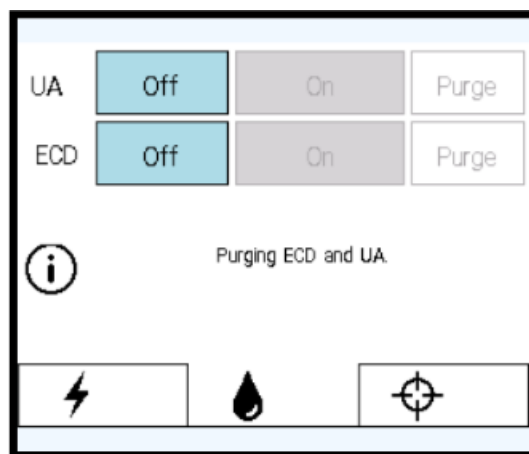
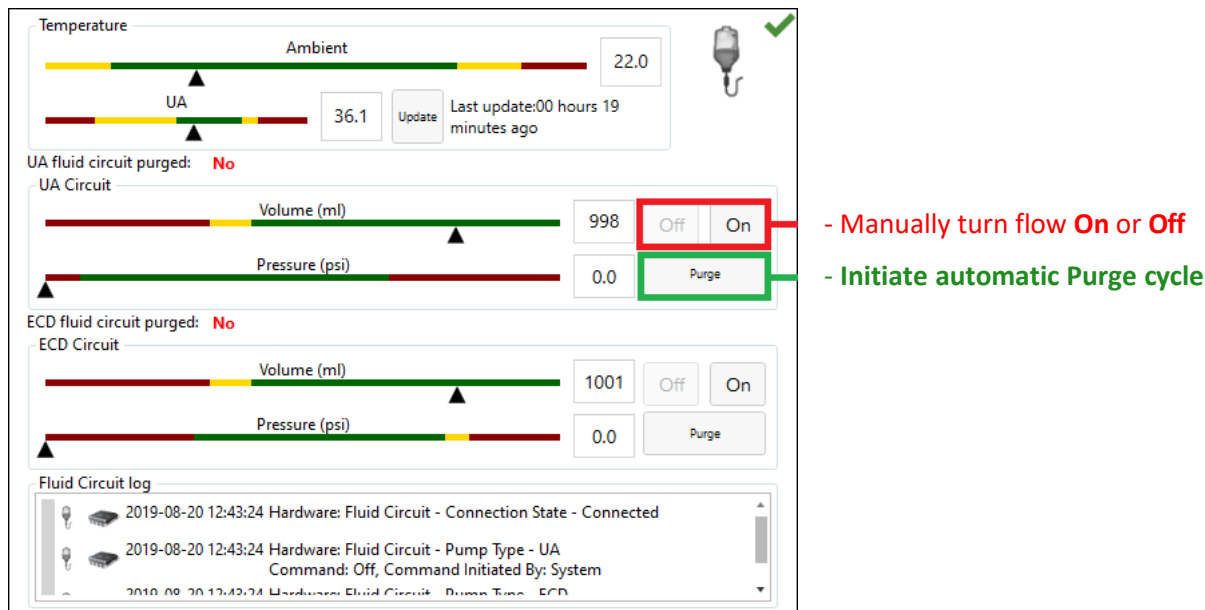

Figure 10: PSIB Display - Fluid Circuit tab
Figure 11: Fluid Circuit information box in TDC Setup workspace
- On the PSIB display, choose the **Fluid Circuit** tab  (Figure 10) and **Purge** the UA and ECD fluid circuits. You can also do this from the TDC by pressing **PURGE** beside the fluid circuit (FC) quadrant (Figure 11).
- a. If the purging cycle ends before completing the steps in this process, return to the PSIB display (or TDC window) and manually turn the flow on by clicking **On**. The fluid pumps will remain on until you click **Off** (*Figure 11*).